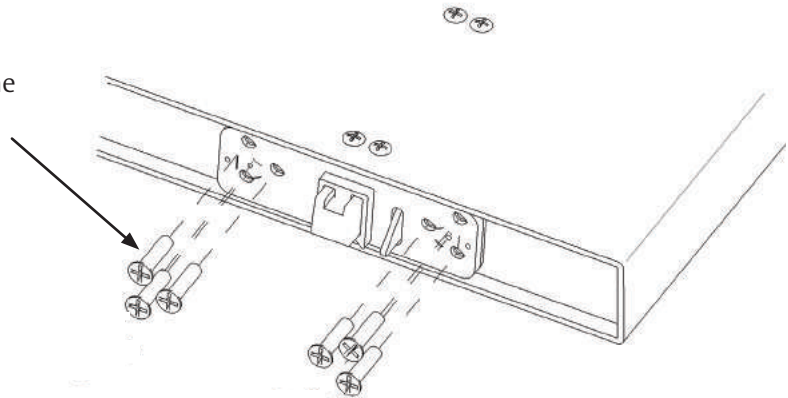

Figure 44
2. Install six (6) 1/4-20 flat head screws in the top edge of the door. (Figure 44)